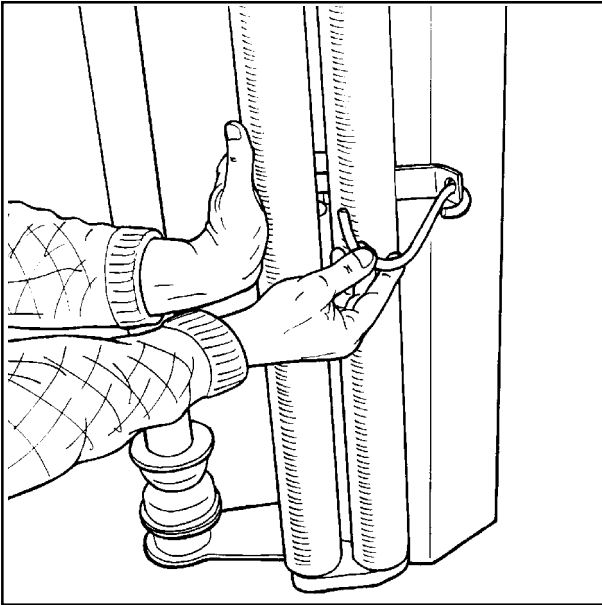

Fig. 5-1
- 5.1 When the plastic roll shall be mounted, you have to hold the prestretcher-rollers aside, Hold the rollers aside and put on the holding hook. (See fig. 5-1).